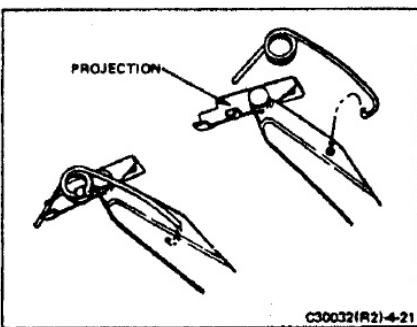

FIGURE 4-21 ERECTING LINK SPRING INSTALLATION
- If the erecting link is undamaged but a new spring is needed, refer to Figure 4-21. Note that the coiled portion of the spring snaps over a small projection on the link assembly.